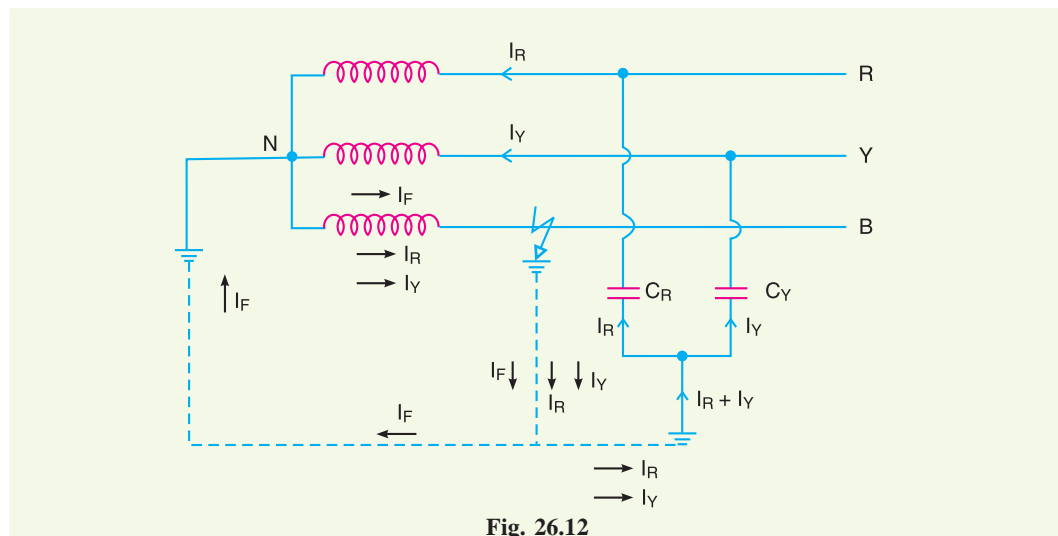

Fig. 26.12
- (ii) When earth fault occurs on any phase, the resultant capacitive current I_C is in phase opposition to the fault current I_F . The two currents completely cancel each other. Therefore, no arcing ground or over-voltage conditions can occur. Consider a line to ground fault in line B as shown in Fig. 26.12. The capacitive currents flowing in the healthy phases R and Y are I_R and I_Y respectively. The resultant capacitive current I_C is the phasor sum of I_R and I_Y . In addition to these capacitive currents, the power source also supplies the fault current I_F . This fault current will go from fault point to earth, then to neutral point N and back to the fault point through the faulty phase. The path of I_C is capacitive and that of I_F is inductive. The two currents are in phase opposition and completely cancel each other. Therefore, no arcing ground phenomenon or over-voltage conditions can occur.